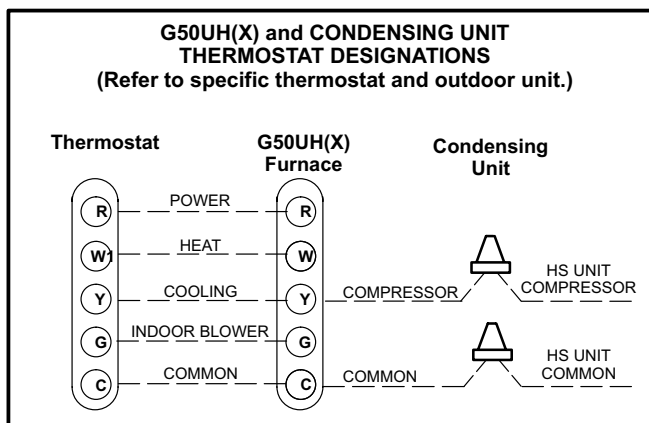

FIGURE 23
- 10 - Install the room thermostat according to the instructions provided with the thermostat. See figure 23 for thermostat designations. If the furnace is being matched with a heat pump, refer to the FM21 installation instruction.